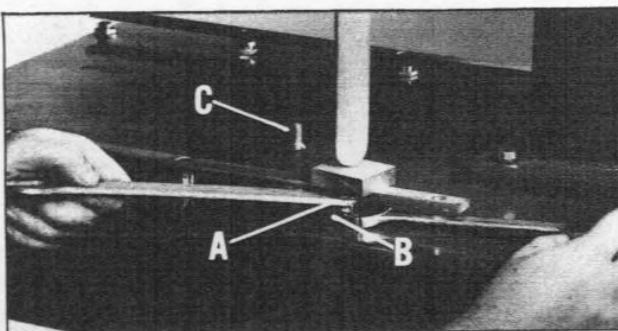

Fig. 14
8. When the correct setting is obtained, hold the leveling screw (A) with a wrench to prevent it from turning and tighten the locknut (B), Fig. 14. Then replace the screw (C).